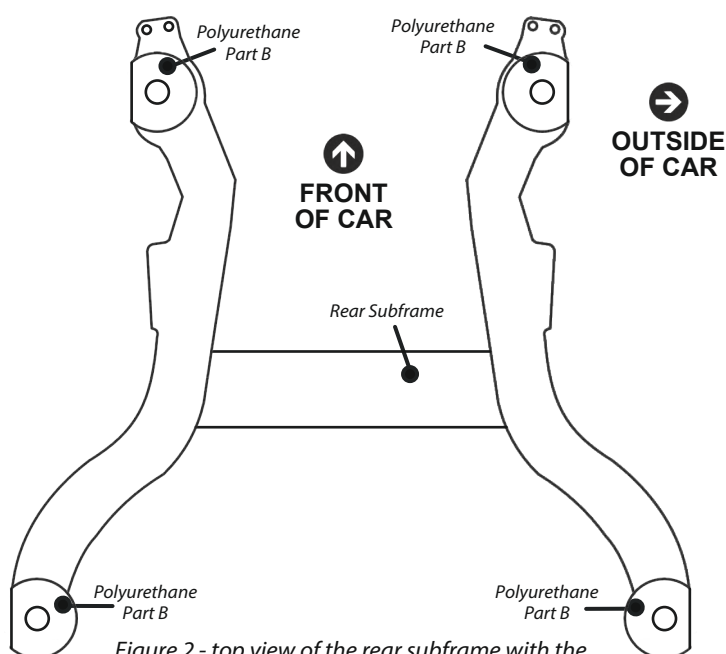

Figure 2 - top view of the rear subframe with the polyurethane parts fitted in
3. Push polyurethane part B (with the flat side) in the upper position on the subframe and with the flat side facing towards the outside of the car, as shown in Figure 2.